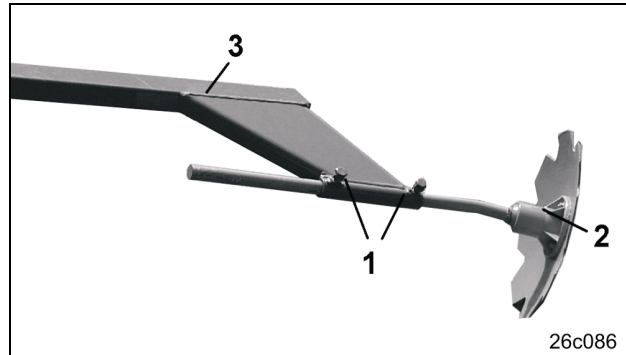

Fig. 100
- Slacken the clamping bolts (Fig. 100/1)
- Pull out track marker disc (Fig. 100/2) and turn if necessary to vary the working intensity that on light soils they follow about parallel with the direction of operation on heavy soils move them to provide more angle "on grip", so that they work more aggressive and create a clearly visible mark.
- Firmly retighten clamping bolt (Fig. 100/1)
- When changing the working width (example: 18x45 cm => 8,1m working width) replace the marker arm end section (Fig. 100/3) by a shorter one.